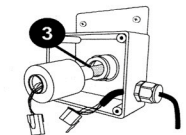

FIGURE 4
4. Slowly remove the UV bulb (3) out of the quartz tube, Figure 4.